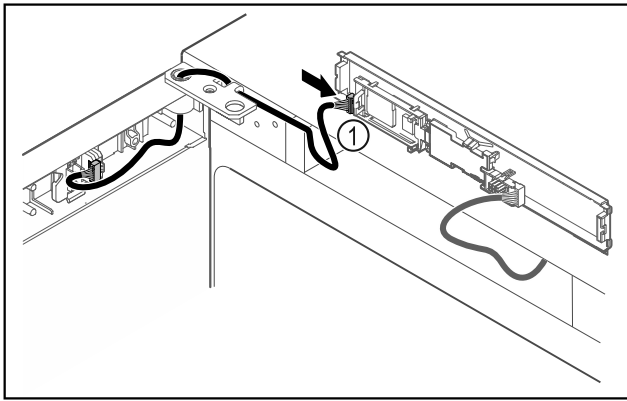

Fig. 46
- Connect the plug Fig. 46 (1) to the circuit board.